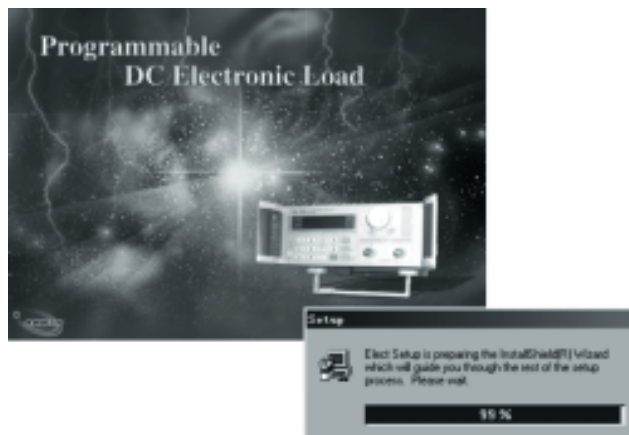

Fig.1-2 The Initialization of the Installation
1.2.1 Insert software CD into the CD-ROM drive, double-click My Computer => CD => Eload => Setup.exe to start the installation, the Fig. 1-2 will be displayed.